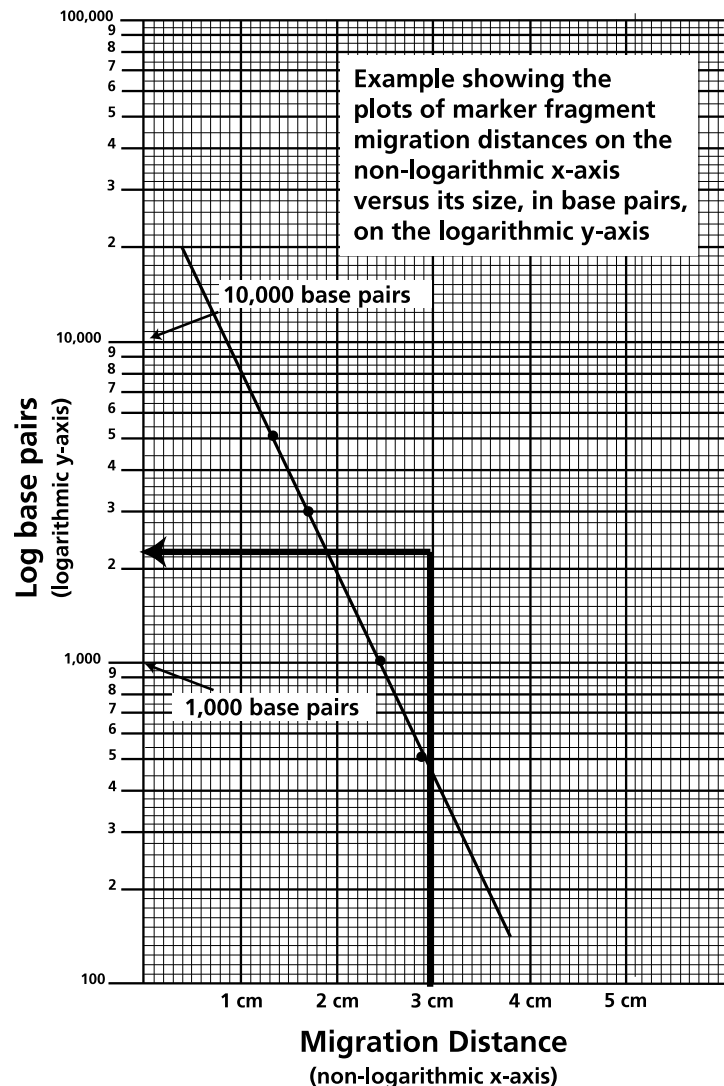

Figure 10: Semilog graph example
After all the points have been plotted, use a ruler or a straight edge to draw the best straight line possible through the points. The line should have approximately equal numbers of points scattered on each side of the line. It is okay if the line runs through some points (see Figure 10 for an example).
- From the point of intersection, draw a second line, this time horizontally, toward the y-axis. The value at which this line intersects the y-axis represents the approximate size of the fragment in base pairs (refer to Figure 10 for an example). Make note of this in your lab notebook.